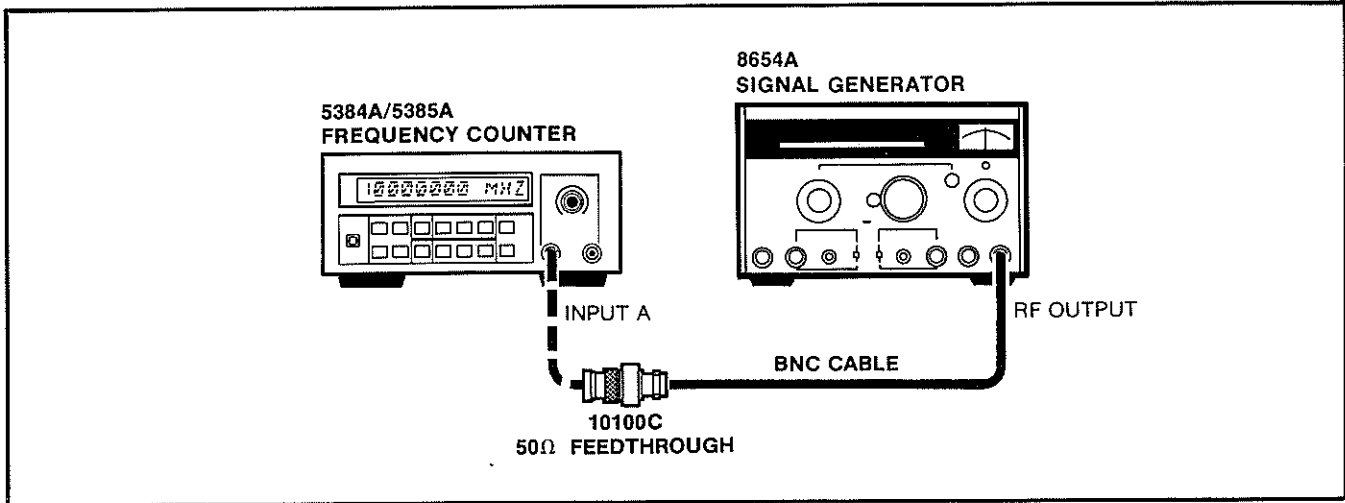

Figure 5-1. Channel A Input Amplifier Adjustment Setup
b. Connect the 8654A Signal Generator as shown in Figure 5-1.